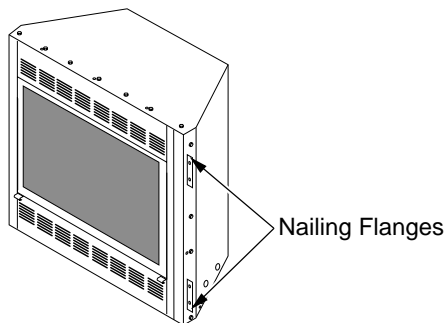

Figure 32 - Location of Nailing Flanges
7. Break off nailing flanges (see Figure 32, page 19) with hammer or pliers.